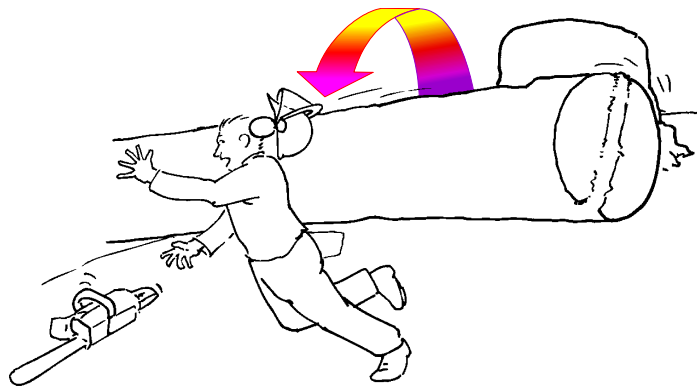

Figure 71 Stand on the opposite side to which a log will spring or roll
- Stand on the opposite side to which a log will spring or roll (on the uphill side) (Fig. 71).